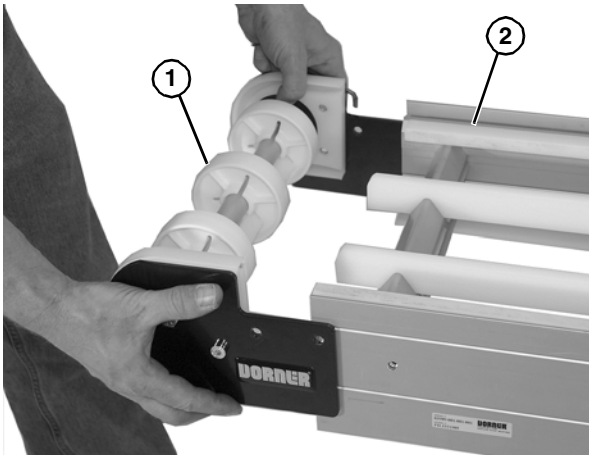

Figure 67
3. Remove idler assembly (Figure 67, item 1) from conveyor (Figure 67, item 2).